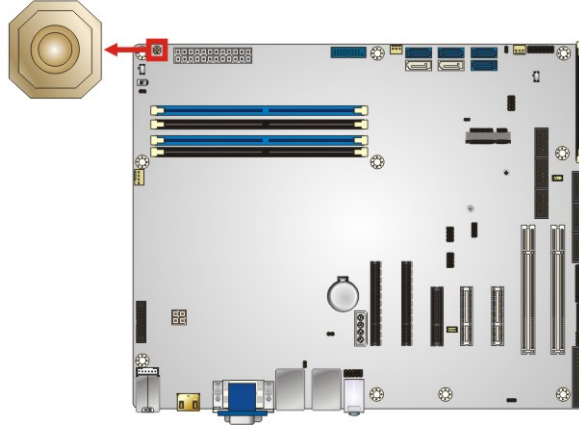

Figure 3-24: Power Button Location
- CN Location:** See **Figure 3-24**